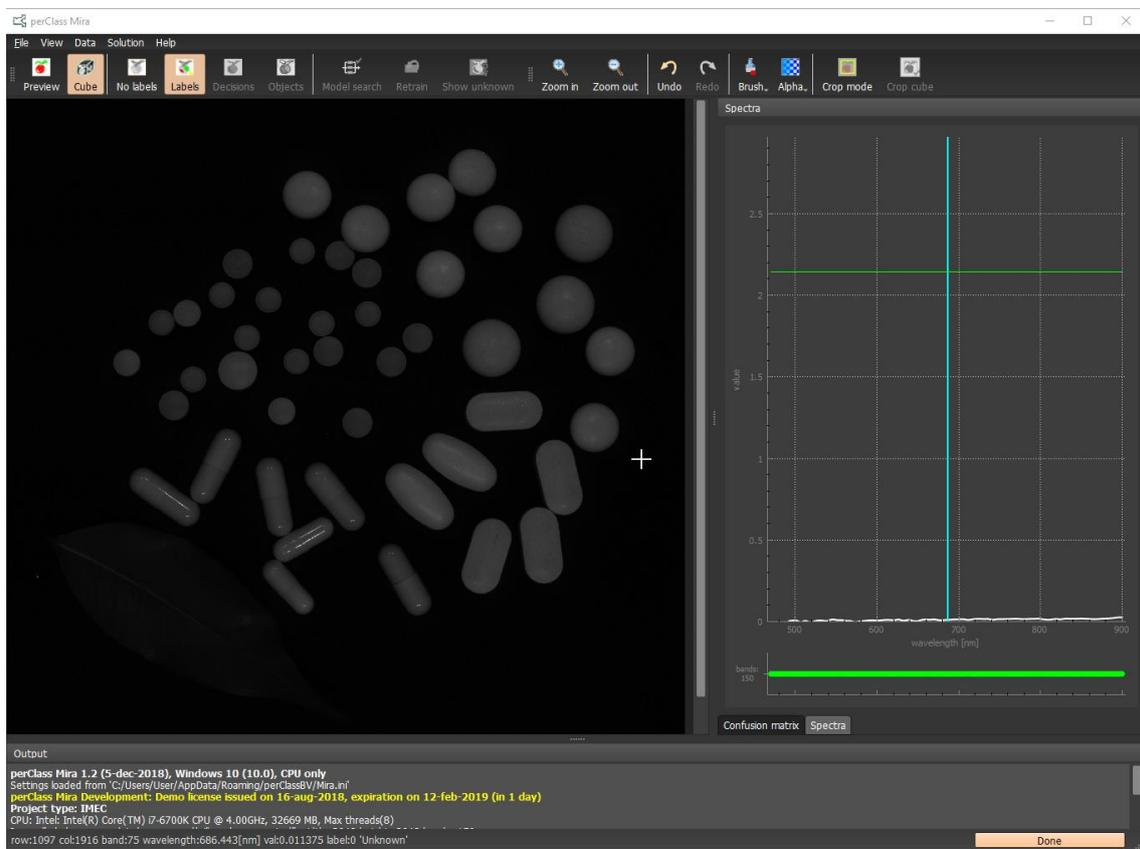

Figure 85 GUI of perClass Mira software
- Step 4** - The cube will open in the perClass Mira software (see Figure 85). Please refer to http://doc.perclass.com/perClass_Mira/Introduction.html for full documentation and user manual on how to use perClass MIRA software to analyze the cube.